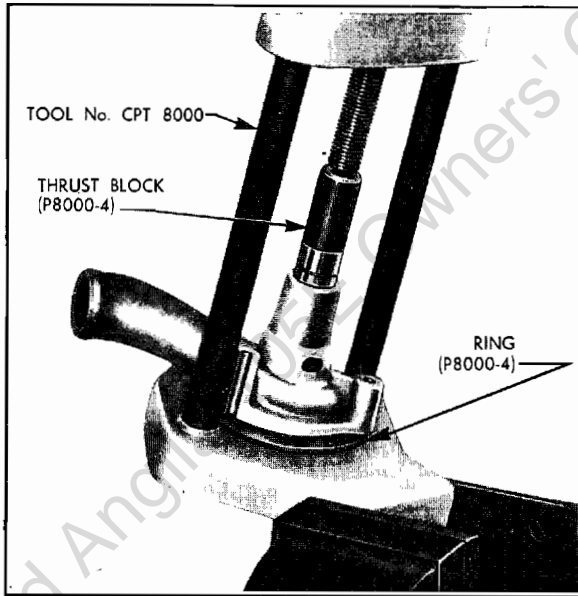

Fig. 4
1. Press the shaft and bearing assembly into the housing (short end of shaft to the front of the housing) until the groove in the shaft is in line with the groove inside the housing, using details d and e as shown in Fig. 4.